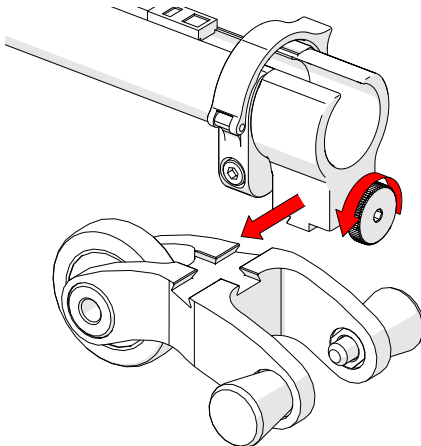

Fig. 82 - Loosen and slide on
1. Loosen the knob on the cable management dovetail mount. Slide the mount onto the dovetail link (Fig. 82).